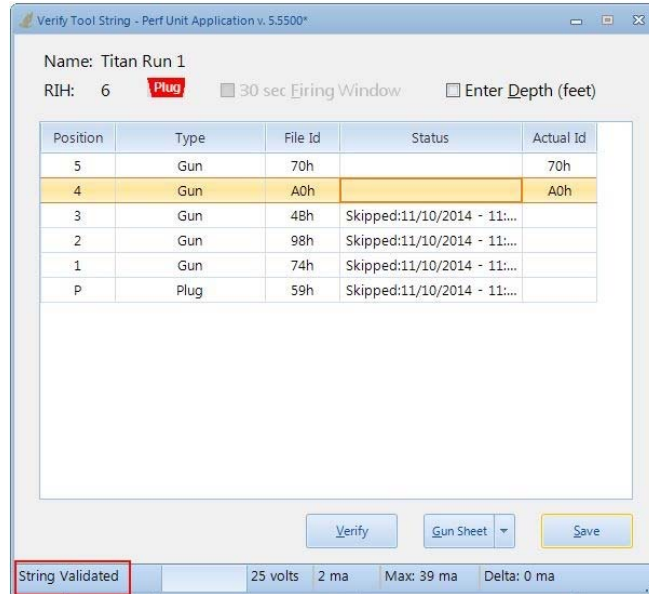

Figure 45
5. Verify the tool string by selecting the **Verify** button. The result of this action is seen on Figure 45. The tool string is again verified.